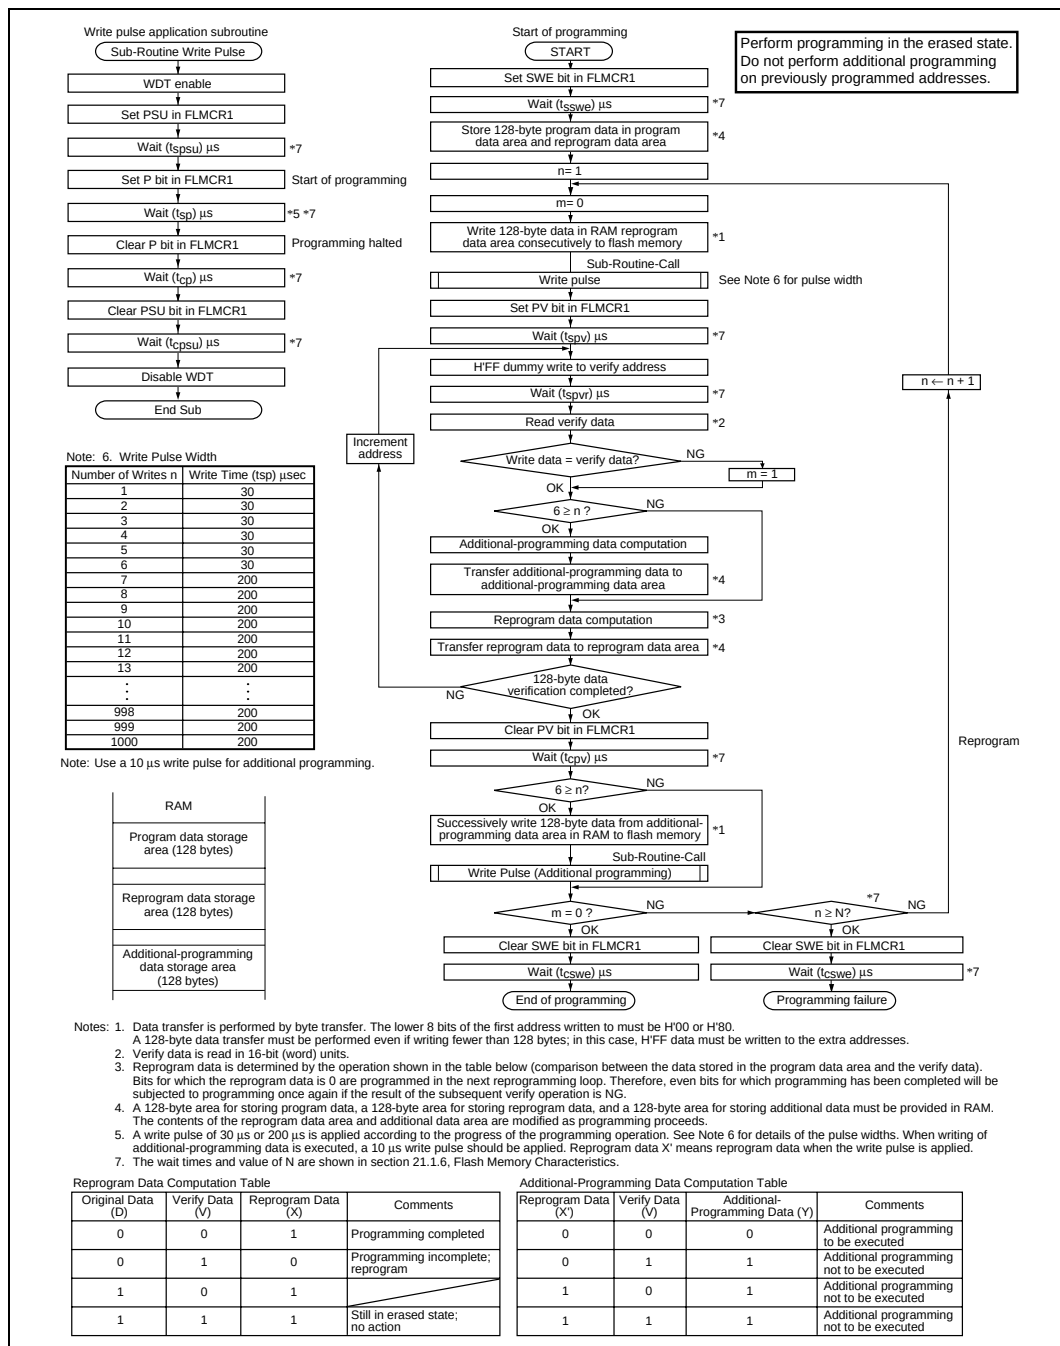

Figure 18.13 Program/Program-Verify Flowchart (128-Byte Programming)
To write data or programs to flash memory, the program/program-verify flowchart shown in figure 18.13 should be followed. Performing program operations according to this flowchart will enable data or programs to be written to flash memory without subjecting the device to voltage stress or sacrificing program data reliability. Programming should be carried out 128 bytes at a time.
After the elapse of the given programming time, clear the P bit in FLMCR1, then wait for at least (t_{cp}) μ s before clearing the PSU bit to exit program mode. After exiting program mode, the watchdog timer setting is also cleared. The operating mode is then switched to program-verify mode by setting the PV bit in FLMCR1. Before reading in program-verify mode, a dummy write of H'FF data should be made to the addresses to be read. The dummy write should be executed after the elapse of (t_{spv}) μ s or more. When the flash memory is read in this state (verify data is read in 16-bit units), the data at the latched address is read. Wait at least (t_{spvr}) μ s after the dummy write before performing this read operation. Next, the originally written data is compared with the verify data, and reprogram data is computed (see figure 18.13) and transferred to RAM. After verification of 128 bytes of data has been completed, exit program-verify mode, wait for at least (t_{cpv}) μ s, then determine whether 128-byte programming has finished. If reprogramming is necessary, set program mode again, and repeat the program/program-verify sequence as before. The maximum value for repetition of the program/program-verify sequence is indicated by the maximum programming count (N). Leave a wait time of at least (t_{csw}) μ s after clearing SWE.
6. The program/program-verify flowchart for the H8/3048F-ONE is shown in figure 18.13. To cover the points noted above, bits on which reprogramming processing is to be executed, and bits on which additional programming is to be executed, must be determined as shown below.